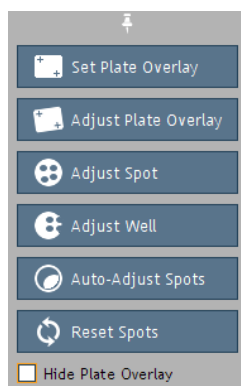

Figure 6. Overlay Options.
3. If you are using the **Auto-Set Plate Overlay** feature (explained below), the initial overlay position will be set automatically. Otherwise, click **Overlay Options > Set Plate Overlay**, and click and drag the cursor from the center of the top-left well to the center bottom-right well. Use the following **Overlay Options** (Figure 6), if needed, to manually adjust the overlay: